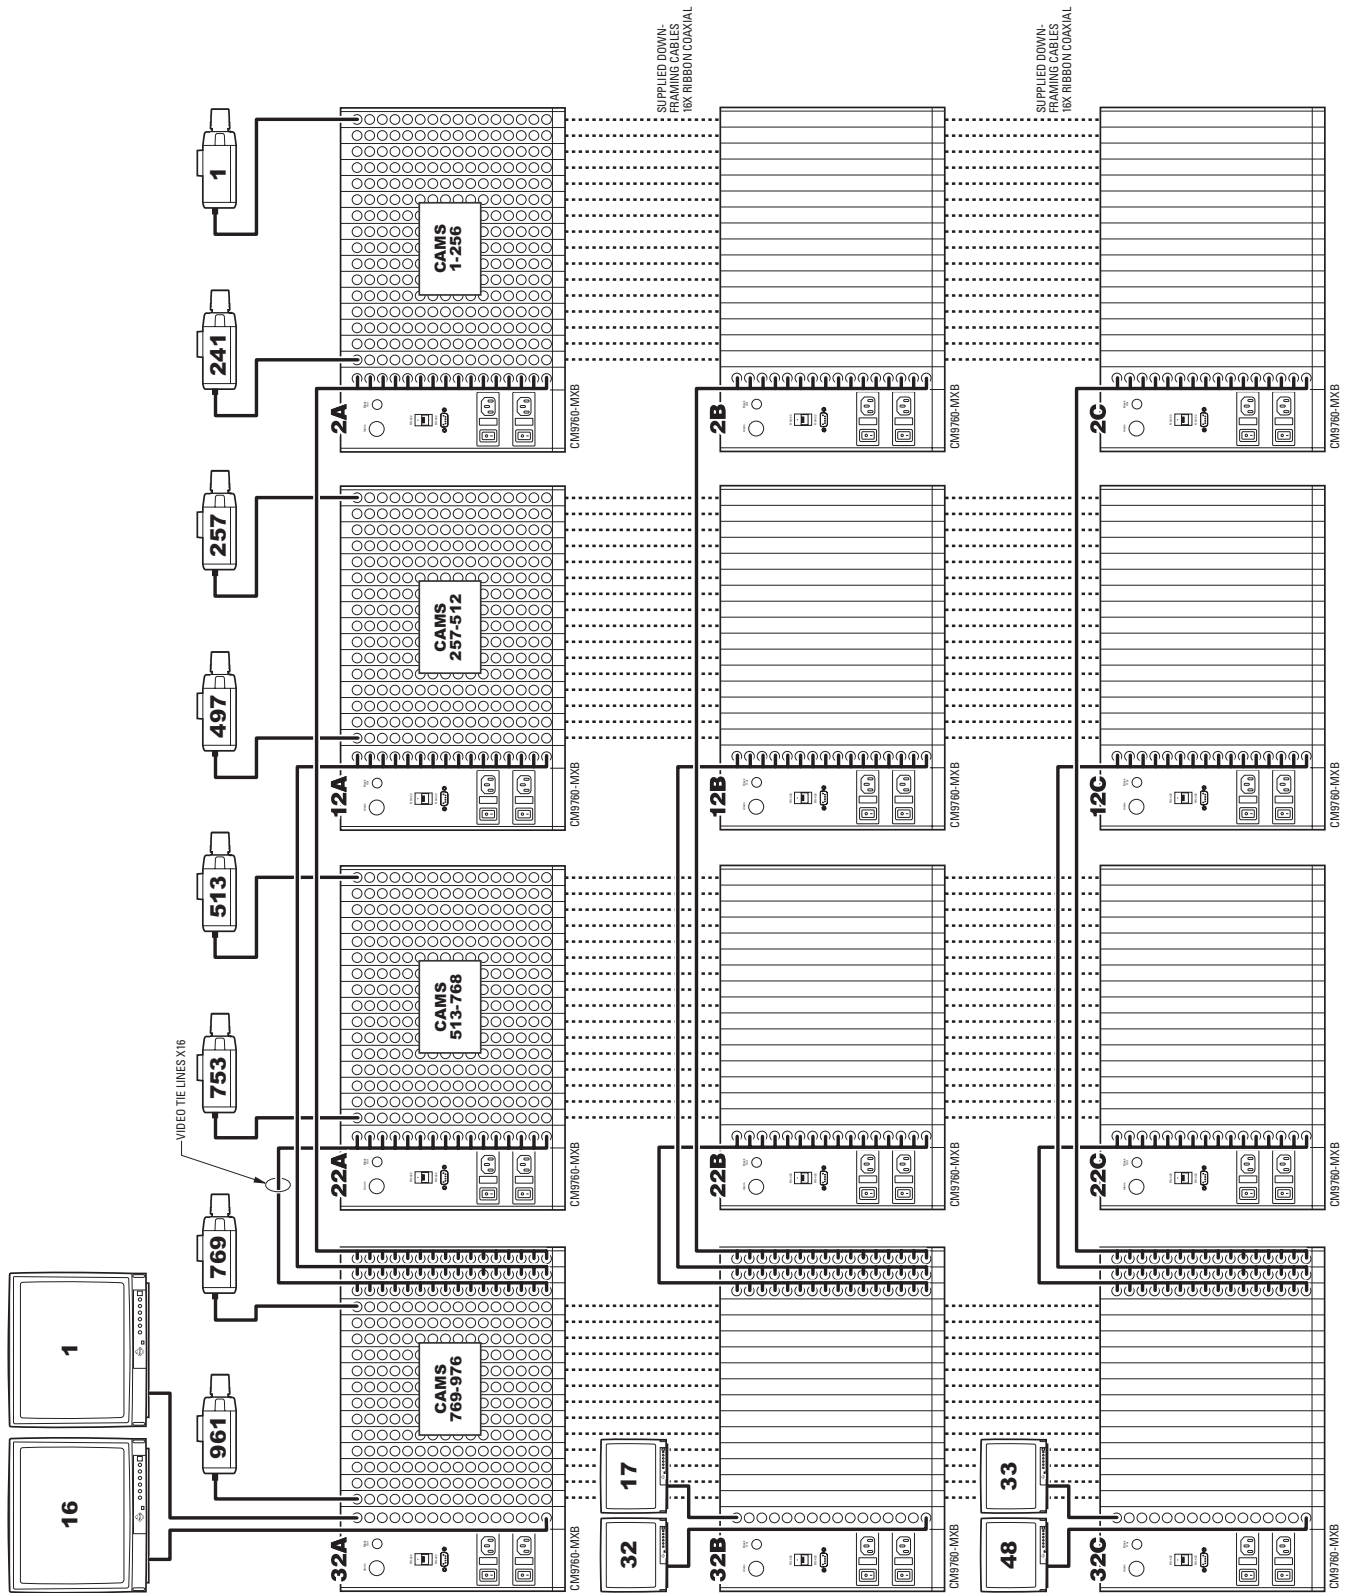

Figure 81. Sideframing and Downframing: 976 x 48 Configuration
- 976 x 48 (refer to Figure 81)